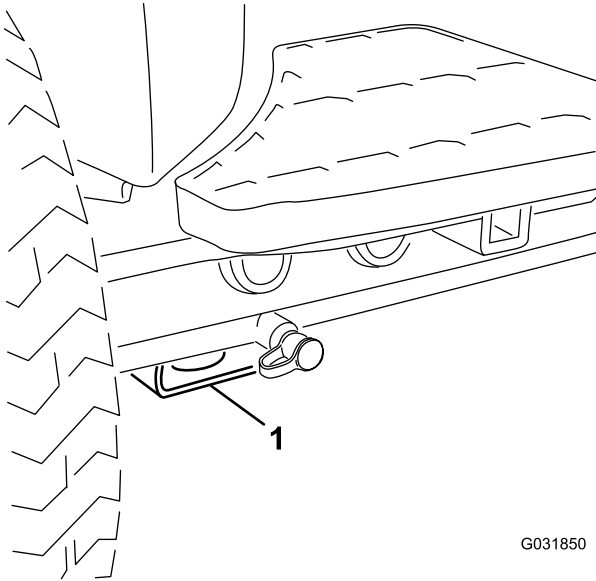

Figure 75
- Front—rectangular pad, under the axle tube, inside each front tire (Figure 75).